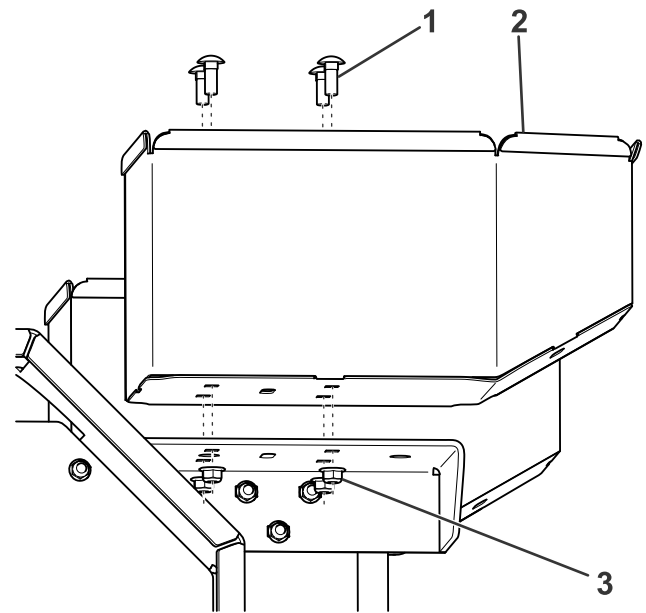

Figure 5
10. Secure the container to the brackets using 4 bolts (3/8 inch) and flange nuts (Figure 5).